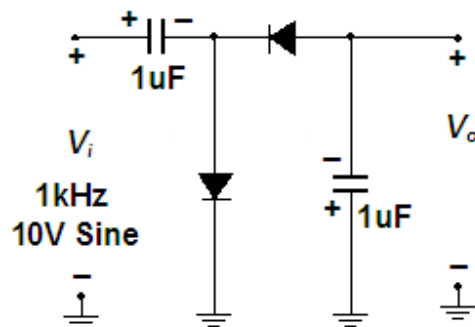

Fig: 10
1. Connect the circuit as shown in fig 10. Set the oscilloscope in 10 volt /div.